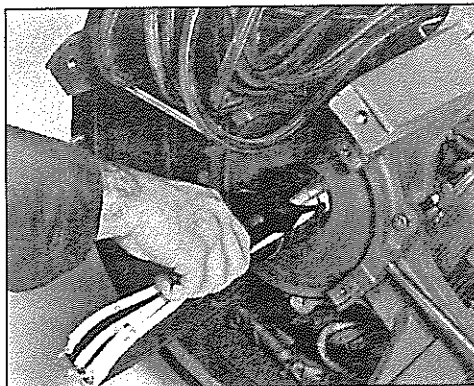

Figure 6-20
5. On 430 frame generators, a second snap ring is used inboard of the PMG rotor (larger generators have a step on the shaft). This snap ring must be removed before the generator's main rotor can be removed (figure 6-20).